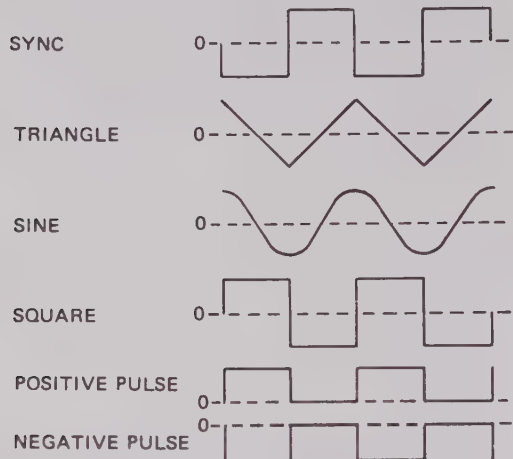

Figure 2-2.
8. **WAVEFORM Selector** — This selects the waveform that appears at the 50Ω output. The waveforms are sine $\sim$, triangle ∇ , square $\square$, positive going pulse $\text{—} \uparrow \text{—}$, negative going pulse $\text{—} \downarrow \text{—}$, and DC voltage. See Figure 2-2 for phase and polarity relationships.
11. **SYNC OUT** — This is a square wave (or rectangular if SYMMETRY control is in use) with the same frequency and opposite polarity of the selectable square wave at the 50 Ω output. Amplitude into an open circuit is greater than 4 V p-p (2 V p-p into 50 Ω). Rise and fall times are less than 50 ns. See Figure 2-2 for phase and polarity relationships.